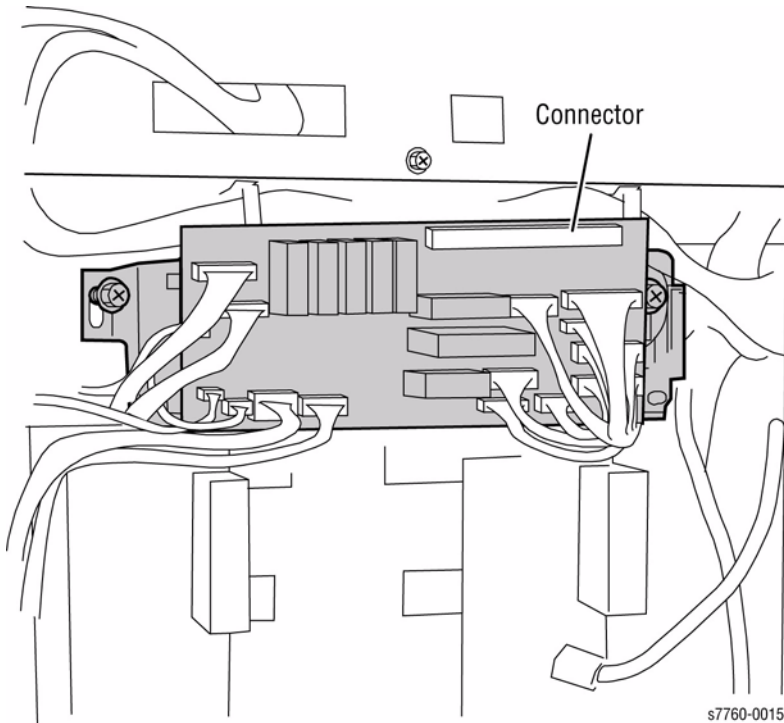

Figure 1 Removing Interface PWB
1. Ensure the 2 screws are positioned in the slots and the Interface Board Connector is fully seated before tightening the screws (Figure 1).